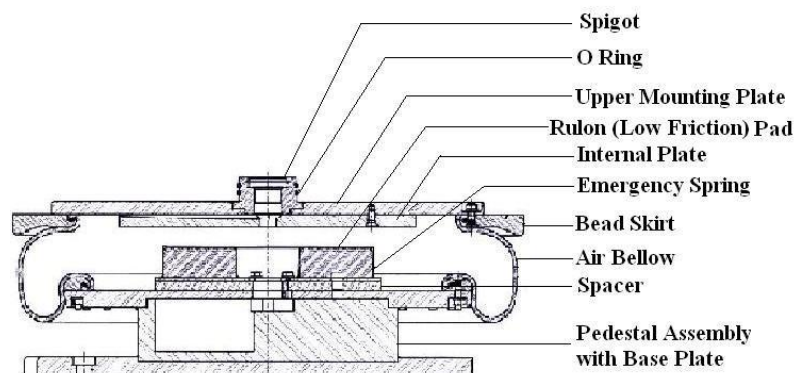
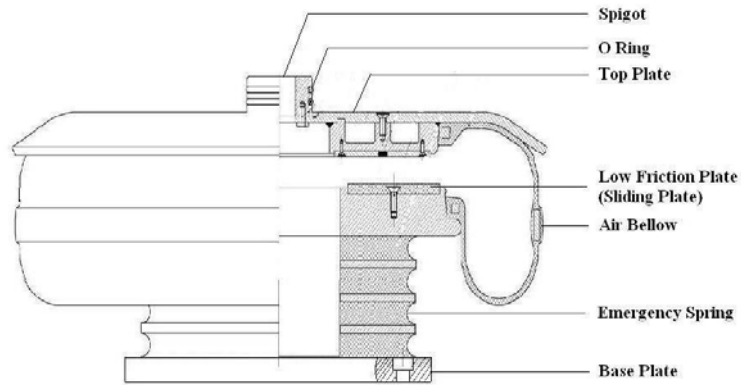

FIG. 4-3 AIR SPRING ASSEMBLY WITH INTERNAL EMERGENCY SPRING
FIG. 4-4 AIR SPRING ASSEMBLY WITH EXTERNAL EMERGENCY SPRING
It is implemented by two spring packs (FIG. 4-4) which sustain the bolster beam (1) over the bogie frame (6). Each spring pack is made up by an internal (3) and an external spring (4), mounted and positioned through the centering discs (5).
Construction details of air spring are shown in Fig.4-3 (air spring with internal emergency spring), & Fig.4-4 (air spring with external emergency spring).